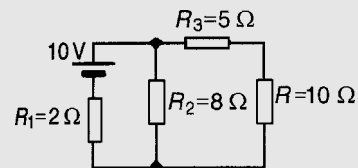

Figure 13.37
**Problem 7.** Use Thévenin's theorem to find the current flowing in the  $10 \Omega$  resistor for the circuit shown in Fig 13.37
Hence the current flowing in the  $10 \Omega$  resistor of Fig. 13.37 is **0.482 A**.